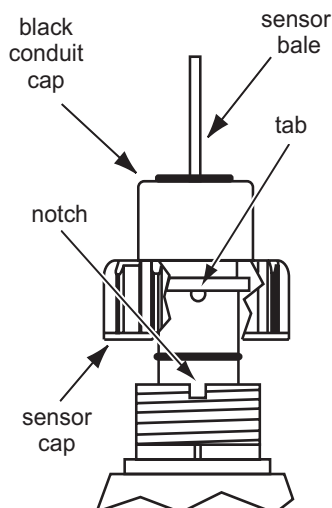

Figure 4
7. Align the tabs under the sensor cap with the notches on the fitting insert and tighten the sensor cap. (Figure 4)